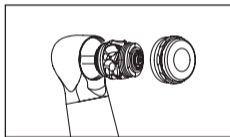

Fig. 31
- 4 Use the bur to gently lever the entire cartridge out from the head (Fig. 31).